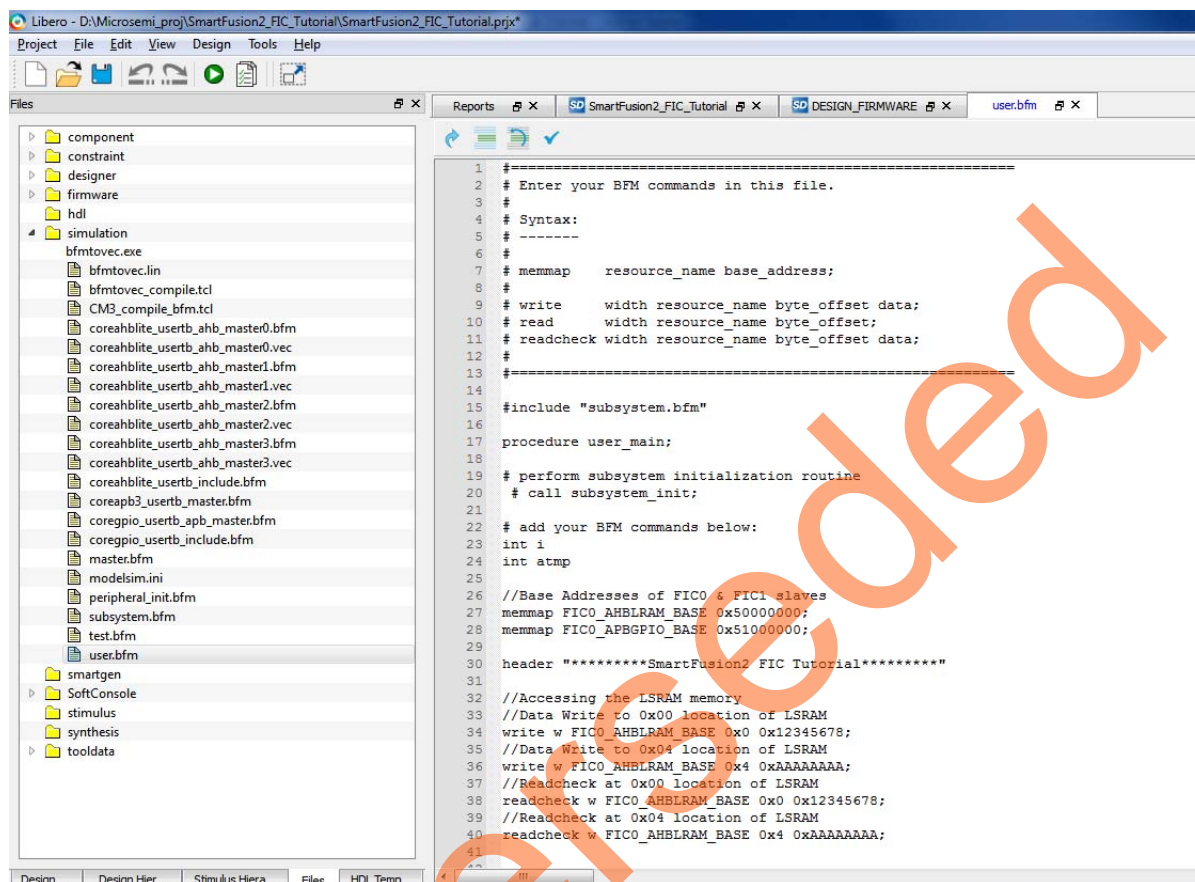

Figure 25 • `user.bfm` file
- After importing, double-click the `user.bfm` file under simulation folder. This opens the `user.bfm` file as a new tab in the project window, as shown in Figure 25.